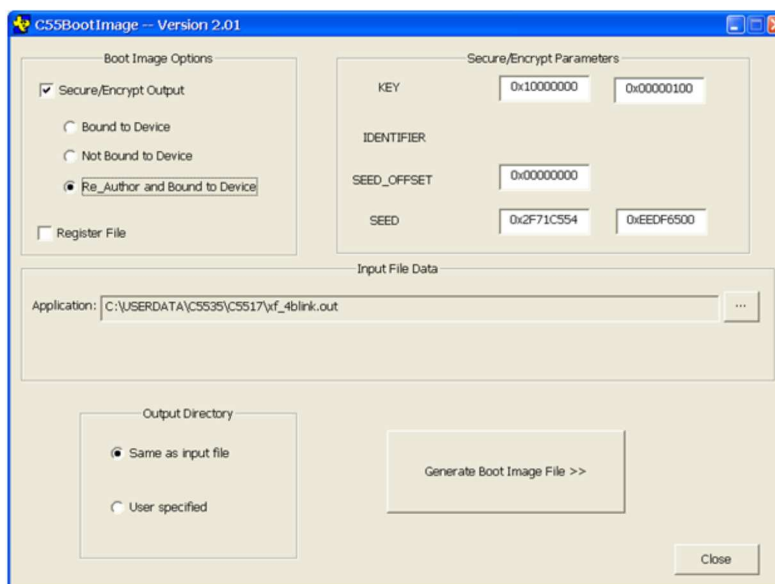

Figure 2. Creating an Encrypted Boot Image: Re-Authorization and Bound to Device
- Re-Authorization and Bound to Device (Figure 2)